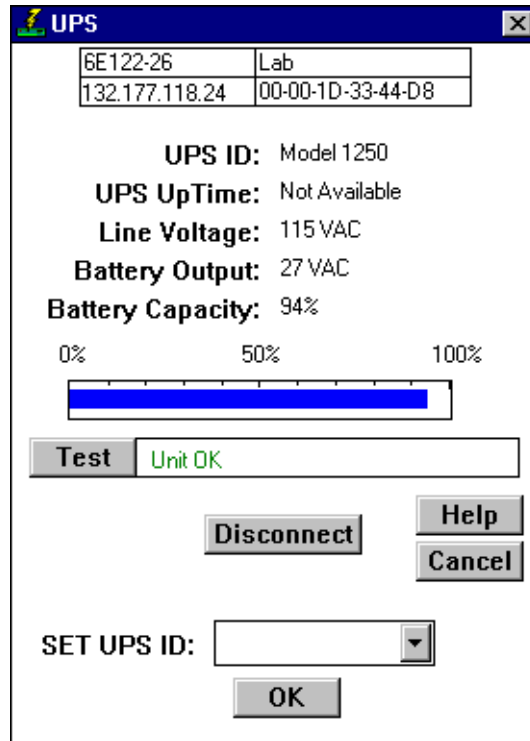

Figure 2-18. The UPS Window
2. Click on **UPS**. The UPS window, Figure 2-18, will appear.